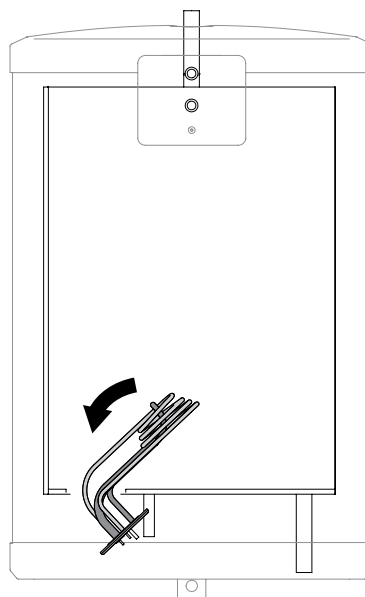

Figure 27: Immersion heater removal step 2
- ▶ Once loose, remove the immersion by twisting the immersion in an arc and then vertically pull down, see figures 27 and 28.